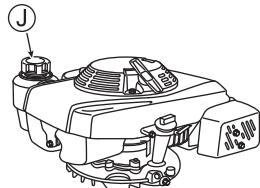

Fig. 9
- 2 Remove Oil tank cap (U), and confirm that the oil level is between the upper and lower limits of the oil gauge.
- 4 Firmly close Oil tank cap (U) after confirmation.
- 1 Open Fuel tank cap (J) and refuel gasoline. Immediately wipe off with a rag if gasoline is spilt. (See Fig. 9)